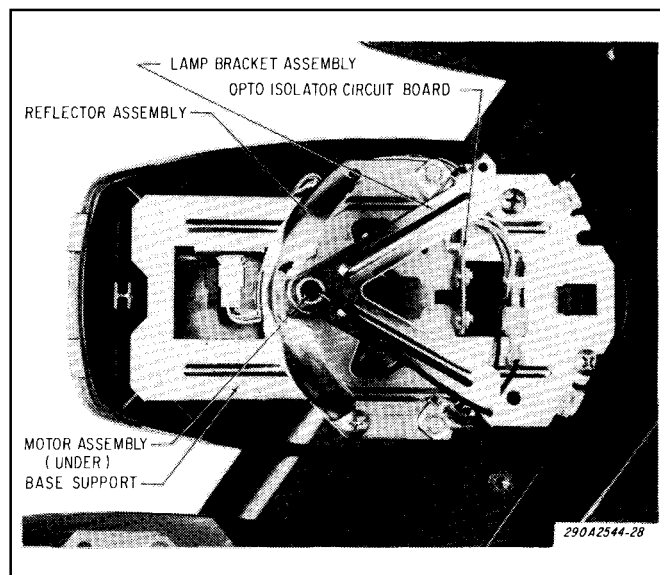

Figure 6-6. Pod Components.
D. Pod Servicing. (See figure 6-6.)